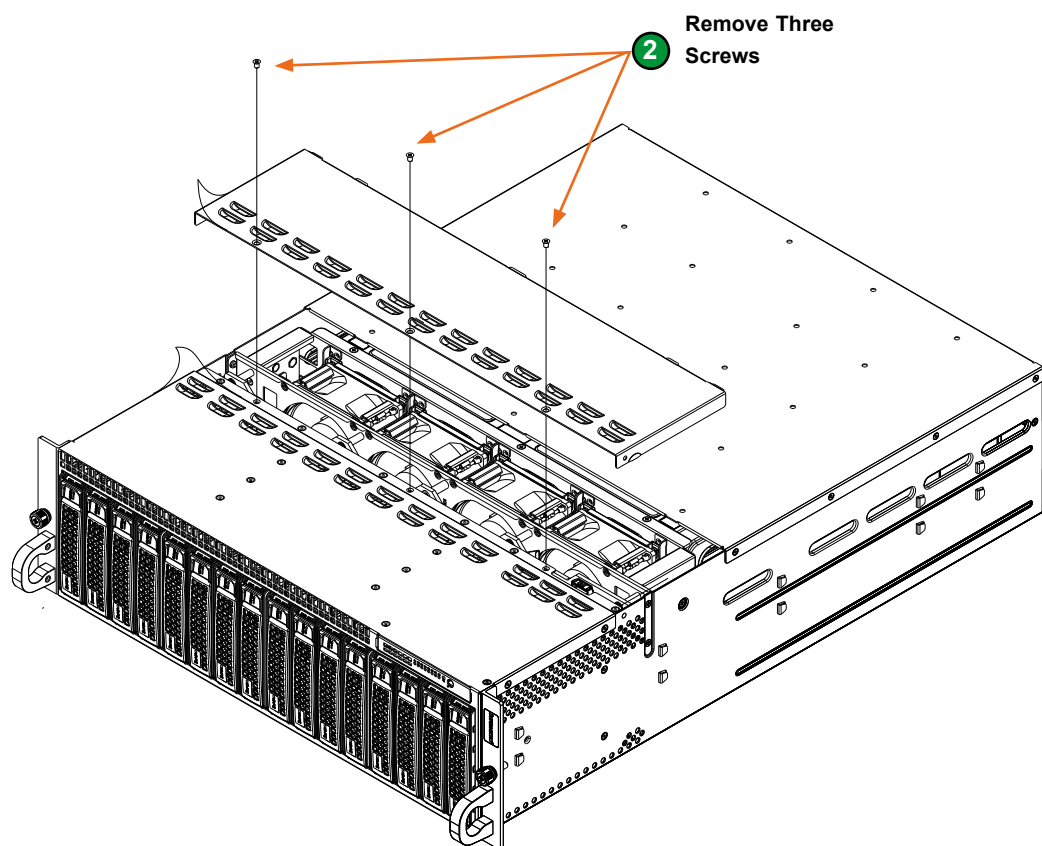

Figure 3-1. Removing the Chassis Cover
2. Remove the three screws securing the cover to the chassis. See Figure 3-1.